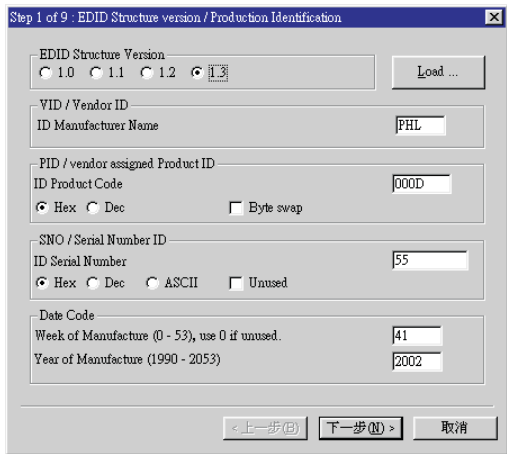

Fig. 14
1. Click  (new function) icon from the tool bar, bring up Step 1 of 9 as shown in Fig. 14 . EDID301 DDC application provides the function selection and text change (select & fill out) from Step 1 to Step 9.